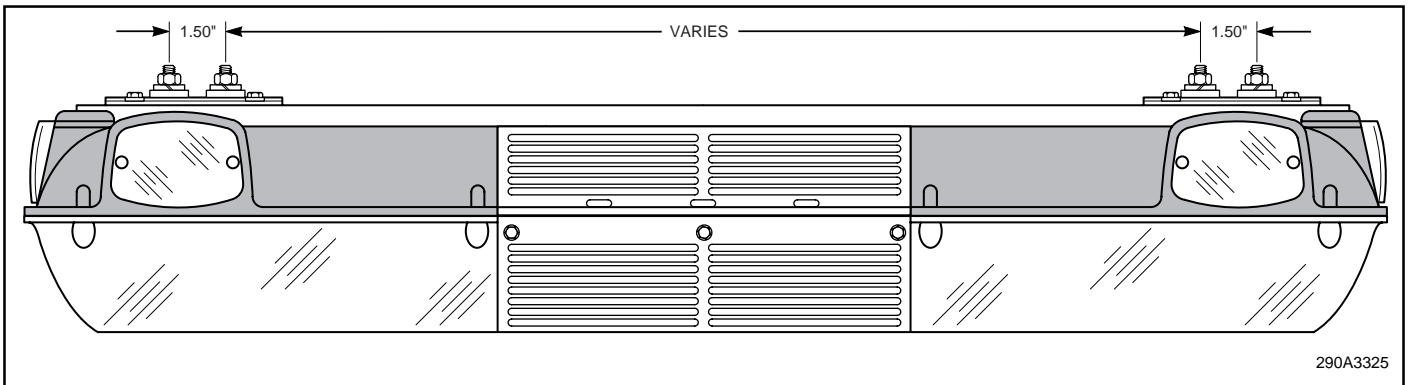

Figure 2.
B. See figure 2. Measure the distance between the inner carriage bolts on the light assembly. This distance will vary according to the length of the light assembly and location of the adapter brackets.
C. Transfer the measured distance to the mounting surface and scribe the inner drill position marks on the mounting surface. Scribe the outer drill position marks on the mounting surface by adding 1-1/2" at each end of the previously scribed drill position marks (see figure 2). If necessary, locate and scribe a drill position mark for a cable routing hole.